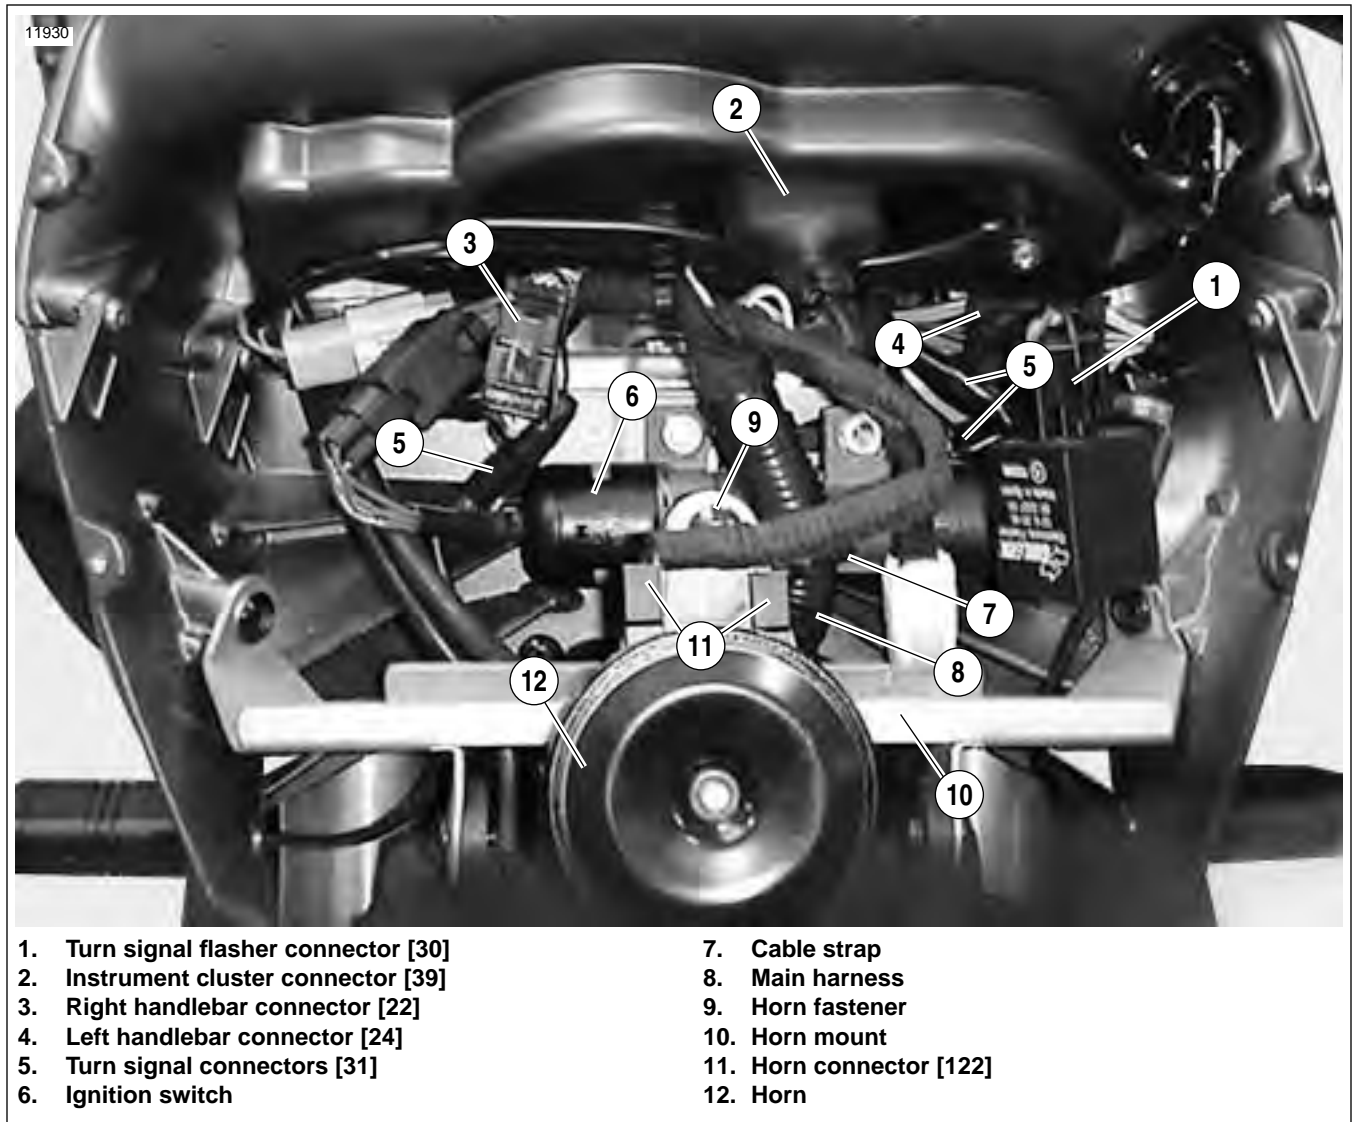

Figure 7-84. Electrical Connectors Behind Windscreen
16. See Figure 7-84. Disconnect: